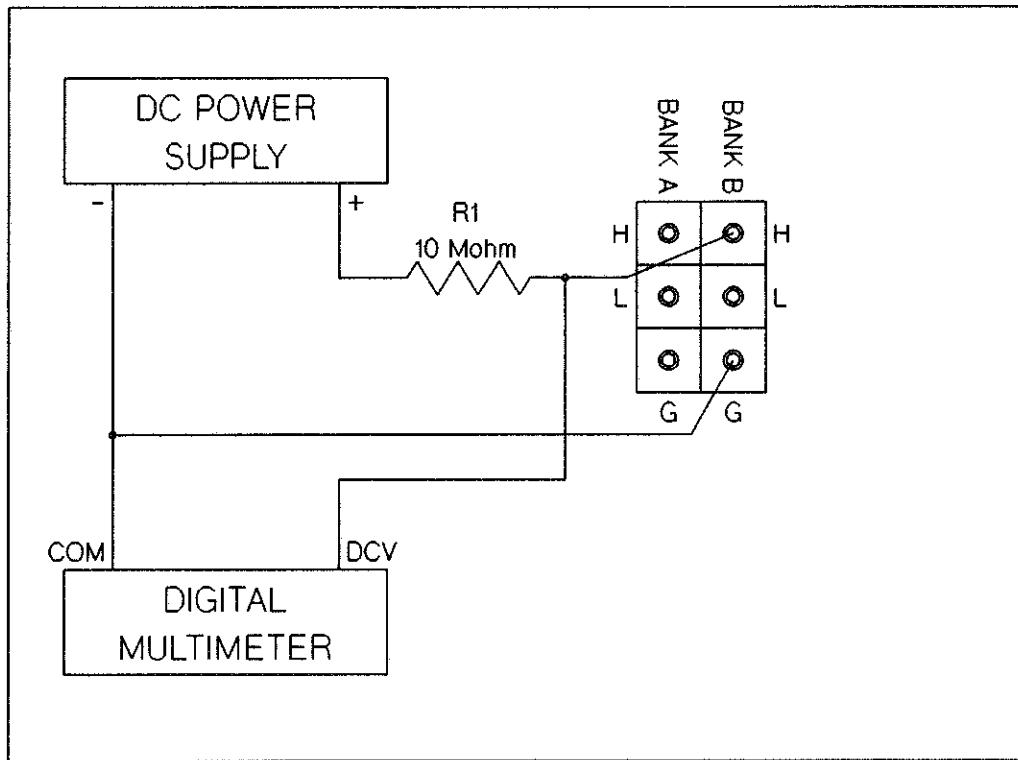

Figure 8-24 HP 44705A/H Bank B HIGH to GUARD DC Isolation
46. Connect the test circuit between the Bank B common HIGH test point and the Bank B common GUARD test point on the test fixture as shown in Figure 8-24.